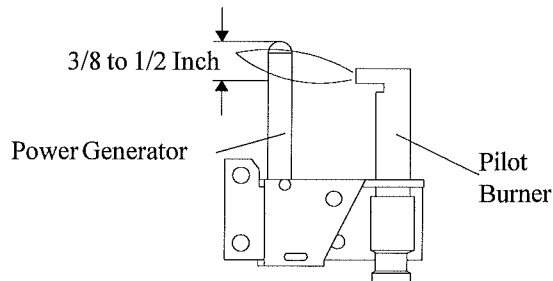

FIGURE 9. PILOT BURNER ADJUSTMENT
- Adjust pilot key to provide properly sized flame. See Figure 9 for properly sized flame.